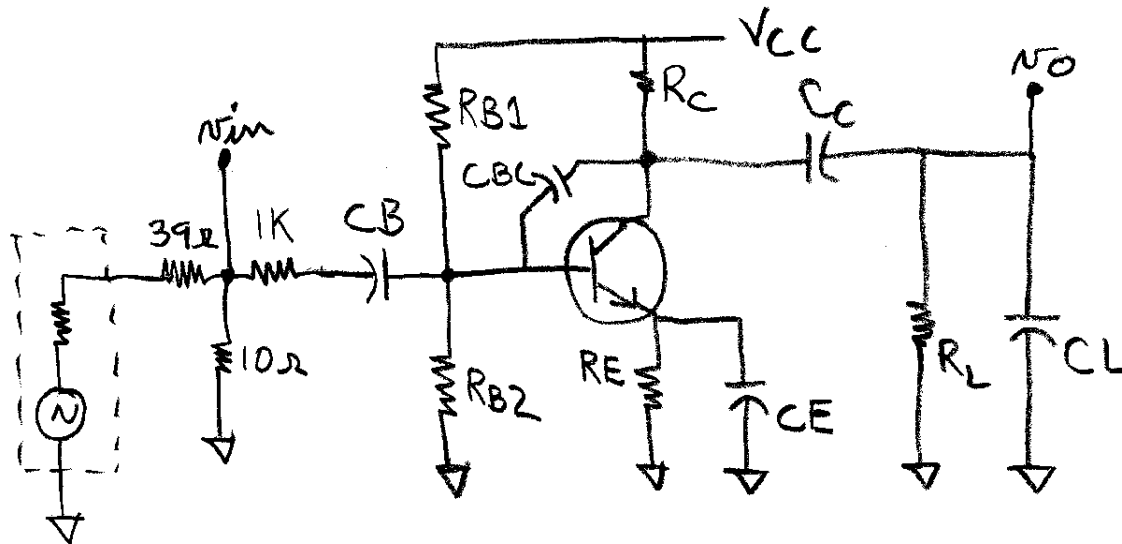

Figure 1: Amplifier with frequency response effects
- 1.1 Do a hand analysis of the circuit in Figure 1 to determine the bias conditions, input resistance, output resistance, and AC gain. Hint: most of this is in the example in frequency_response_notes.pdf. However, you will have to compute the net gain yourself – it will be roughly twenty percent lower than the A_{v1} shown.
- 1.4 Do a SPICE simulation of the circuit in Figure 1 to confirm your calculations for bias conditions. Do not include the 39 and 10 ohm voltage divider (those are just a lab aid) – just connect the 1K resistor straight to the SPICE generator. Do a frequency response from 10 Hz to 100 kHz with 20 (or more) points per decade (i.e. 80 (or more) points total). Determine the composite low cut-off and composite high cut-off frequencies from the response data. By definition the cutoff frequencies are where the gain has dropped to 0.707 times the midband gain. You will have to interpolate between data points to determine the actual frequency.
- 2.1 Build the circuit in Figure 1. If the exact capacitor values as shown in the circuit are not available then use combinations of what is available to achieve something close (say within $\pm 25\%$) and then adjust your calculations for frequency response in 1.2 – 1.4 to use the same capacitance values you actually used.